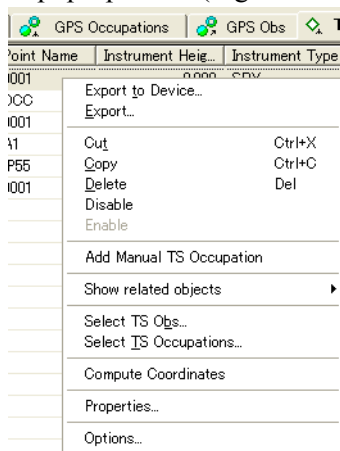

Figure 5-84. Open Properties
- To add a new instrument type to the instrument list or edit a current instrument type, right-click a TS occupation and click **Properties** on the pop-up menu (Figure 5-84).